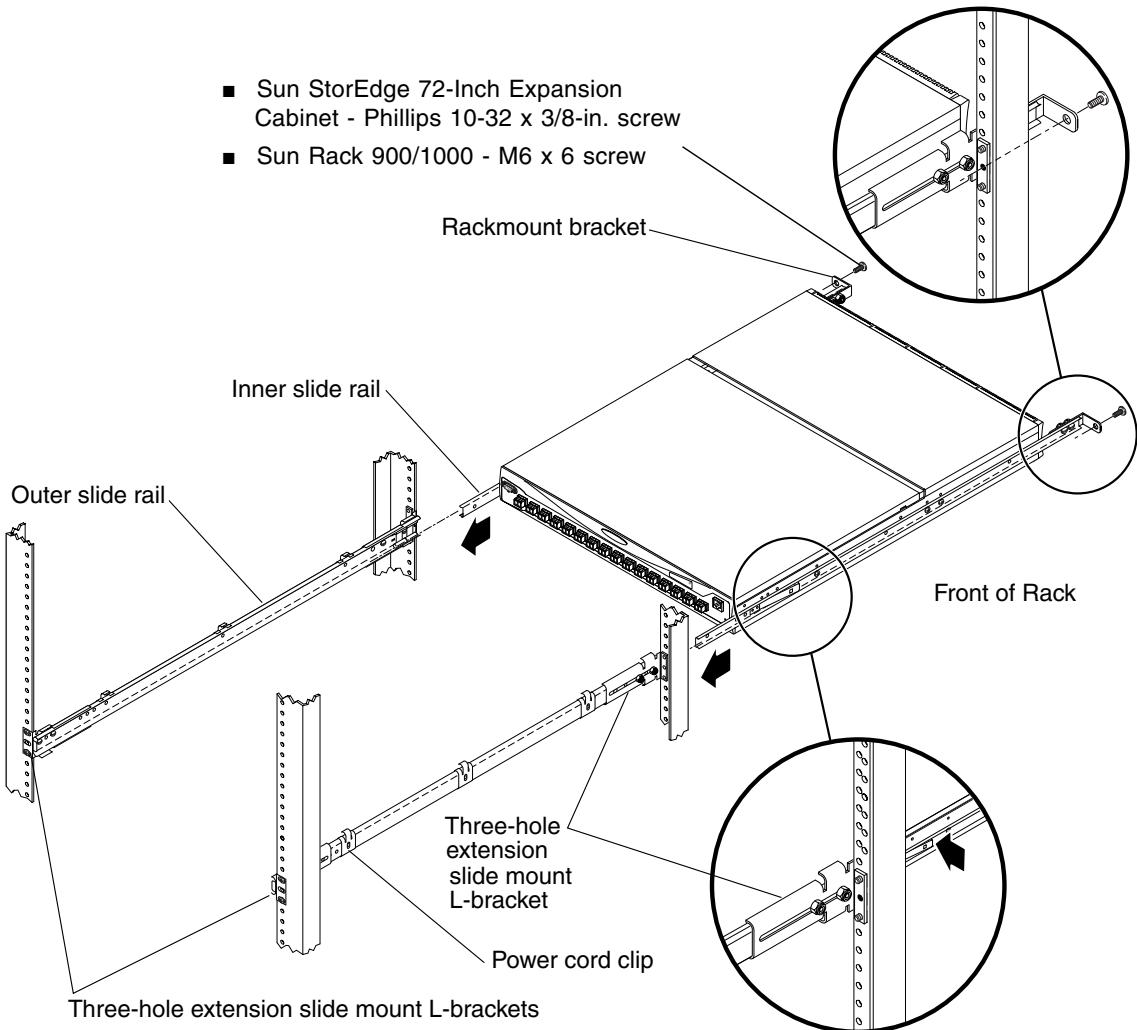

FIGURE 2-2 Silkworm 3800 Switch and Outer Slide Rail Installation
- a. See FIGURE 2-2. Use two of the slotted head 8-32 x 3/8-inch screws per L-bracket, with the screw heads on the inside of the slide rails and a lock nut on the end of each screw.
- b. Position the outer slide rail in the rack and adjust the L-brackets to accommodate the depth of the cabinet. Refer to FIGURE 2-2.
To allow the SilkWorm 3800 switch to slide out of the front of the rack, orient the rail as shown in FIGURE 2-2, with the closed end of the slide rail toward the back of the rack.
- d. Attach the L-bracket on the front end of the outer slide rail to the corresponding rack vertical rail, using two of the Phillips 10-32 x 3/8-inch screws. See FIGURE 2-2.
- a. Position the SilkWorm 3800 switch next to the rack as shown in FIGURE 2-2, and insert the inner slide rails into the outer slide rails.
2. Attach the rackmount brackets to the vertical rack rails using one Phillips 10-32 x 3/8-inch screw per bracket, tightening the screws to a torque of 25 inch-pounds (28.8 cm-kgs). See FIGURE 2-2.
- a. Place the power cord clips on the outer slide rails. See FIGURE 2-2.